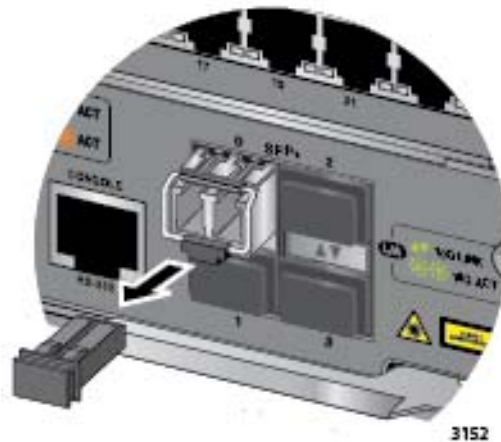

Figure 117. Removing the Dust Cover from an SFP or SFP+ Transceiver in the AT-SBx31CFC960 Controller Fabric Card
4. Remove the protective cover from the transceiver, as shown in Figure 117 on page 179.